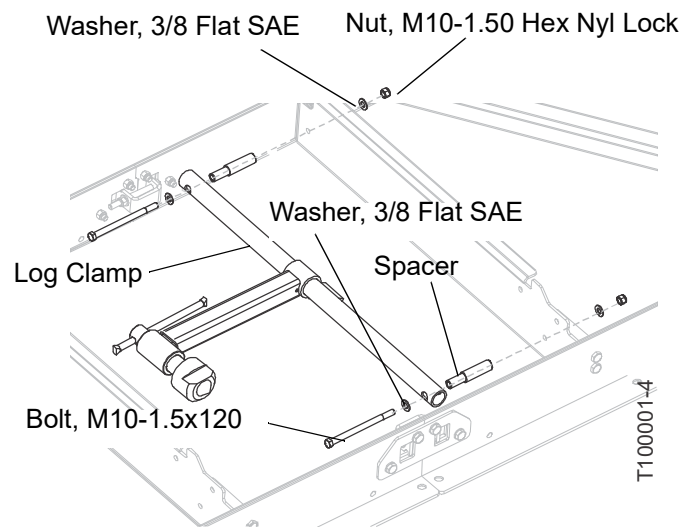

FIG. 1-4
4. Attach the log clamp in the middle of the bed. See FIG. 1-4.